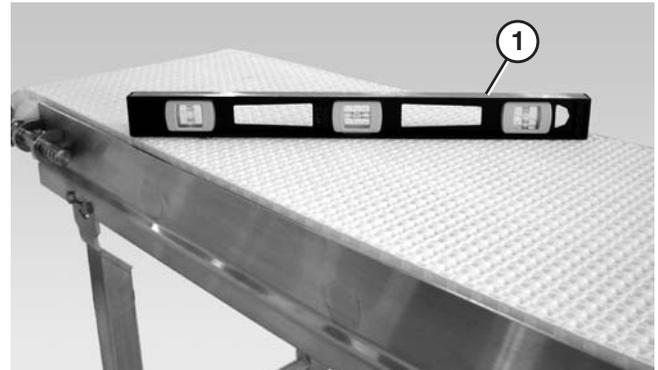

Figure 20
4. Use a level (Figure 20, item 1) to verify that both stand legs are the same height.